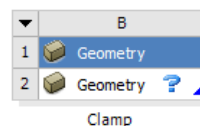

Figure 3-84 The **Geometry** component system added to the project
- Once the **Geometry** component system is added to the **Project Schematic** window, the name field at the bottom of the component system is highlighted in blue. If it is not highlighted, double-click on the name field and enter **Clamp**, refer to Figure 3-84. The component system is renamed as **Clamp**.